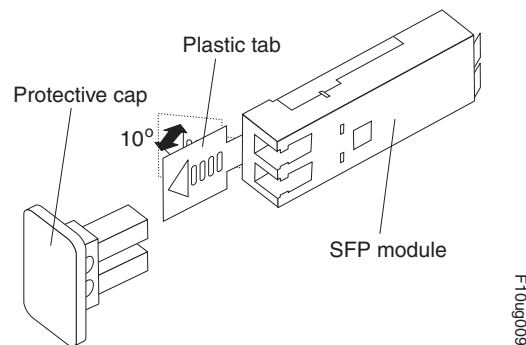

Figure 36. Unlocking the SFP module latch - plastic variety
- For SFP modules that contain plastic tabs, unlock the SFP module latch by pulling the plastic tab outward 10°, as shown in Figure 36.